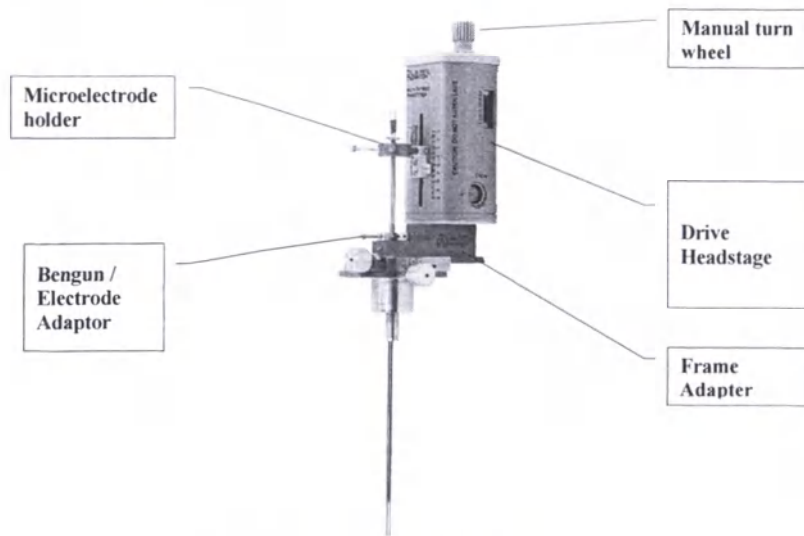

Figure 2: AutoClavable Drive Headstage Module
- The Drive HeadStage and the components comprising the Drive HeadStage module appear in Figure 2